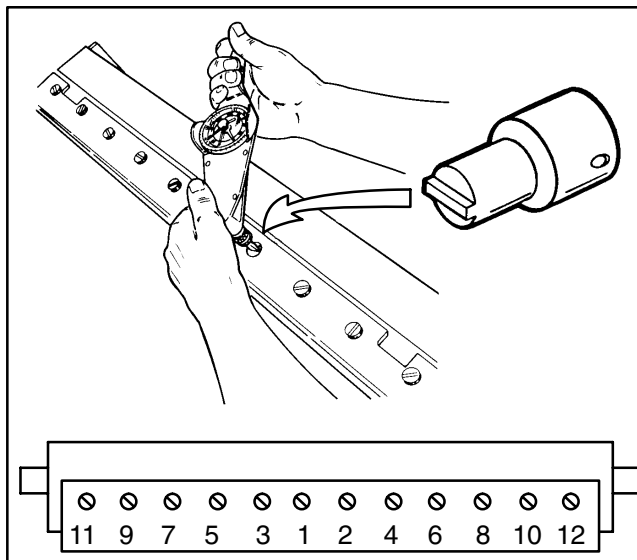

Figure 10
C. Tighten screws to a torque of 250 to 300 in-lb (28 to 34 N-m). Tighten screws from the **center** toward each end of the bedbar (Fig. 10).